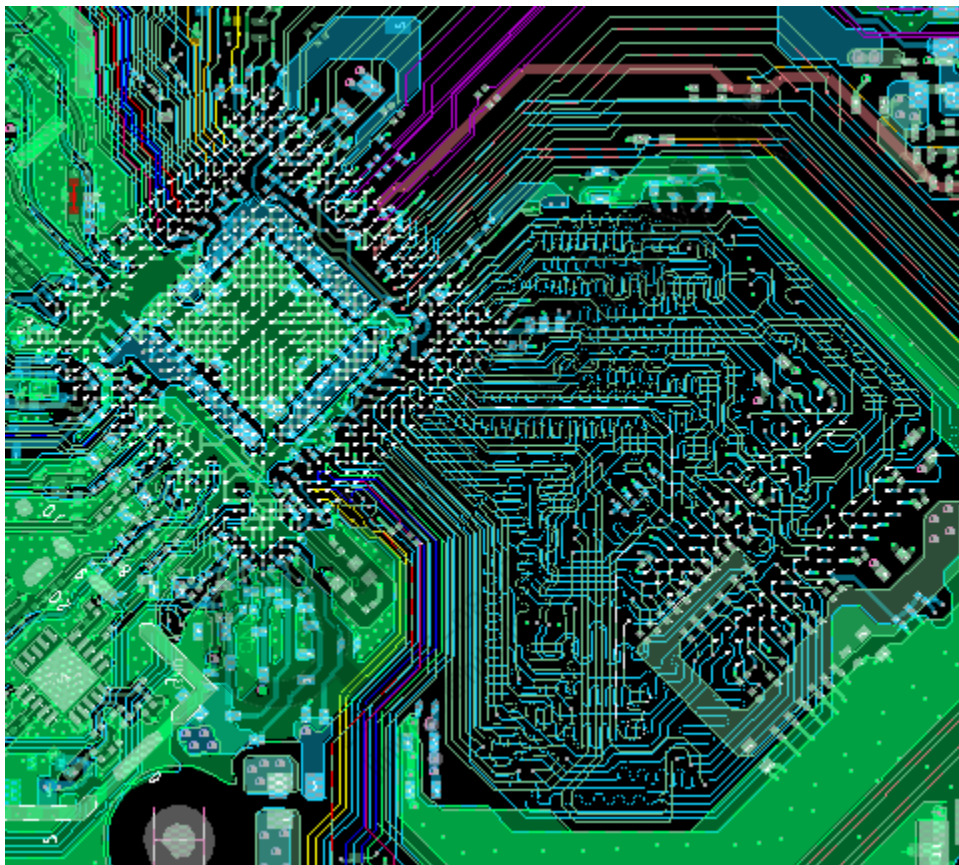

Figure 3-13 DDR3 Routing Topology
The command address (CA) bus and data bus are routed in point-to-point topology, as shown in Figure 3-13. VTT terminations are used for CA lines.